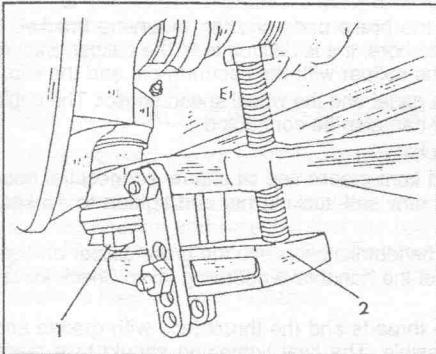

Fig. 6.14. — Separating the suspension ball joint from the steering knuckle. Leave the nut (1) in position when using the puller (2).
- Undo the ball joint nut and screw it to the end of the thread. Use a suitable ball joint puller, as shown in Fig. 6.14, and separate the ball